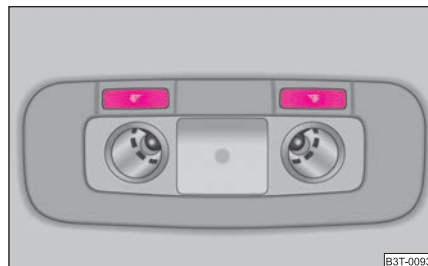

Fig. 52 Detail of the headliner: Interior lighting and rear reading lights
- You switch on or off the reading light on the right or left by pressing the switch  ⇒ fig. 52. ■